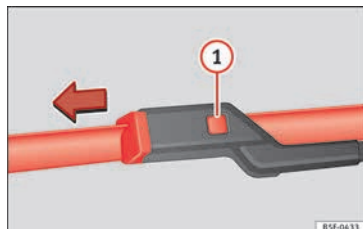

Fig. 81 Changing the windscreen wiper blades
- Press and hold release button » **Fig. 81** ⓘ and pull gently on the wiper blade in the direction of the arrow.